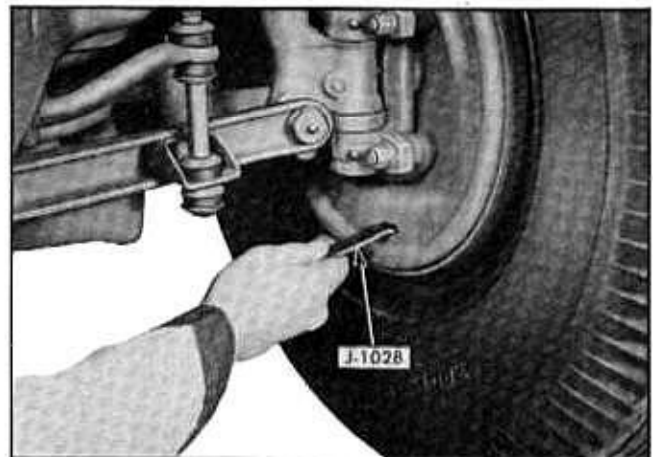

Fig. 5-7 Expanding Adjusting Screw
5. Insert screwdriver or special tool J-1028 in slot of backing plate until it engages star wheel on adjusting screw and move outer end of tool upward to expand brake shoes (Fig. 5-7). Expand until the car wheel can just be turned by hand, then back off adjusting screw 14 notches. After completing adjustment, check to see that wheel turns freely without drag. It may be necessary to tap backing plate to permit shoes to centralize before brake will be free.